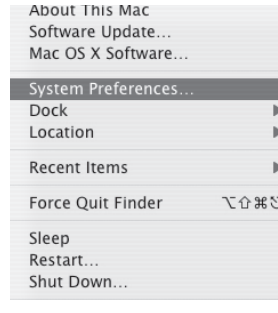

Figure 1
2. To select the C01U as the computers audio input, open the System Preferences from the dock or the main Apple Menu (figure 1).